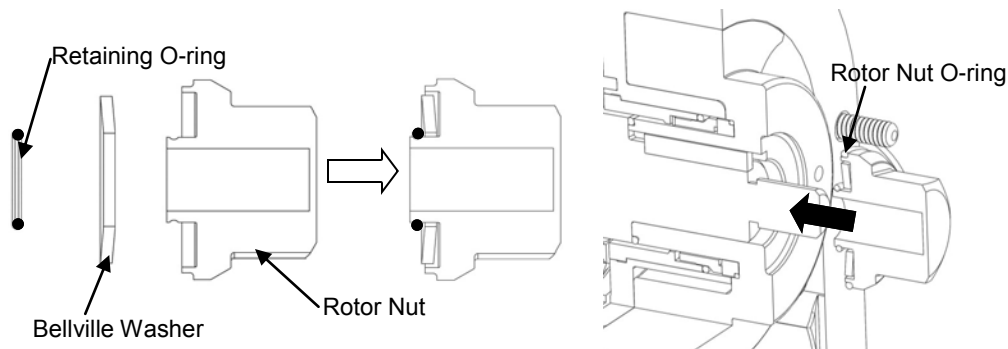

Figure 9: Rotor Nut Assembly
6) Install the Bellville washers in the rotor nuts in the orientation shown and hold them in place using the small retaining o-rings (Figure 9). Install a rotor nut o-ring before threading the nut onto the shaft.